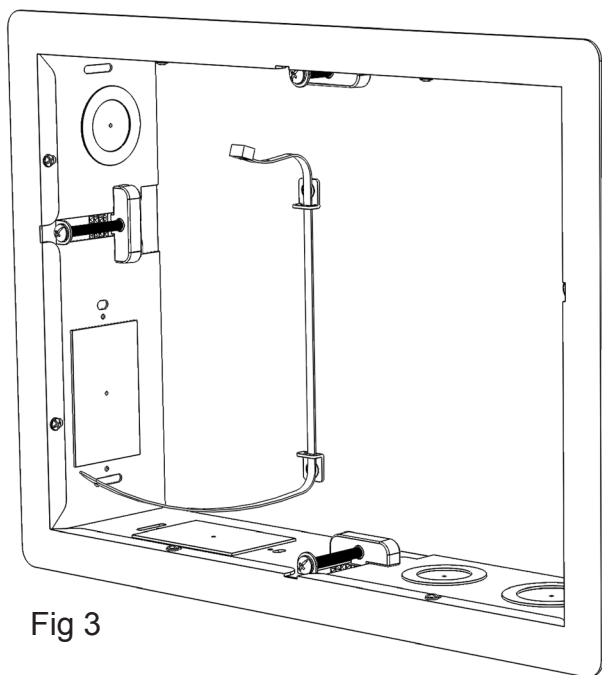

Fig 3
- d. Remove the piece of equipment to be mounted. Feed the zip tie through both clips. The knurled/Bumpy surface should be facing up. (Fig 3)